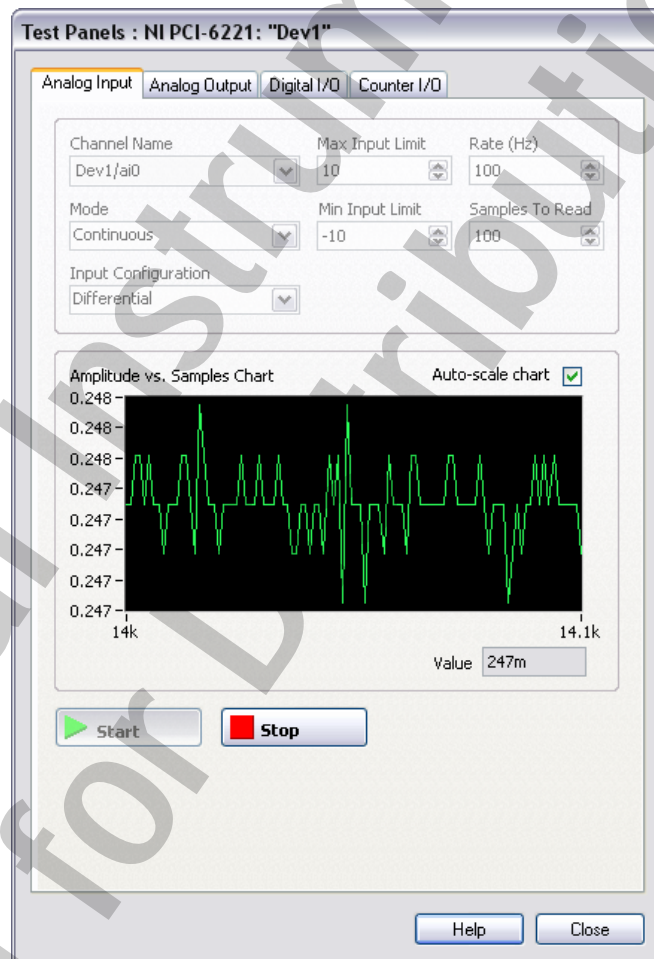

Figure 2-1. Analog Input Test Panel
- ☐ Click the **Start** button. A voltage between 0.2 and 0.3 V should display on the graph, as shown in Figure 2-1. The measured value of voltage is displayed in the **Value** field.